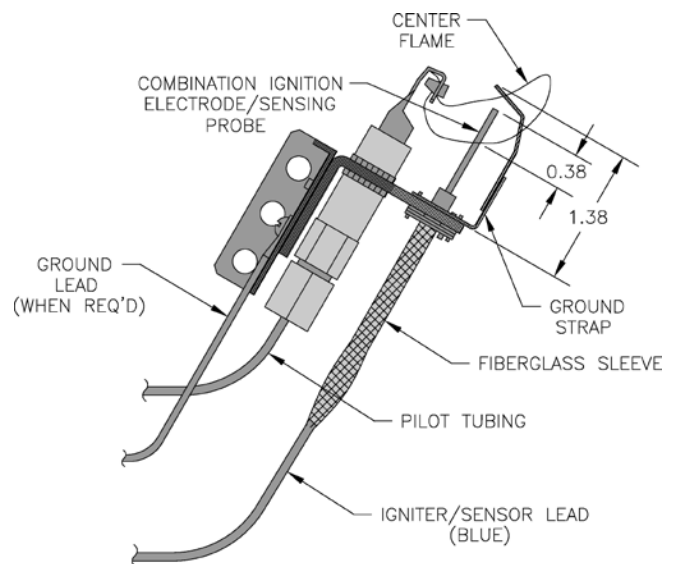

Figure 4: Pilot Burner
4. Check pilot flame. See Figure 4. The pilot produces three (3) flames. The center flame should be steady, medium hard blue enveloping $\frac{3}{8}$ to $\frac{1}{2}$ inch of sensing probe. If flame is yellow and lazy, follow instructions TO TURN OFF GAS TO APPLIANCE (see Figure 2), and contact qualified service agency.